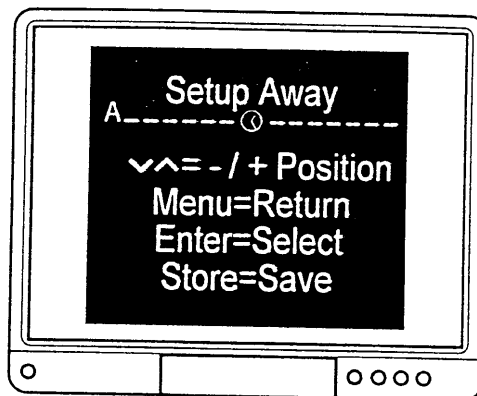

Figure 20.
Step 5. The 'X' shows the position the selected command letter will be allocated to. Use the '∨', '∧' keys to move the highlight to the required position. When you have selected both the letter and position press 'Store'. The on-screen display will change to the display shown in figure 20.
Step 1. Connect the transmitter lead plug(s) to the infra-red transmitter socket(s) at the rear of the Control Unit, as shown in figure 20(c).